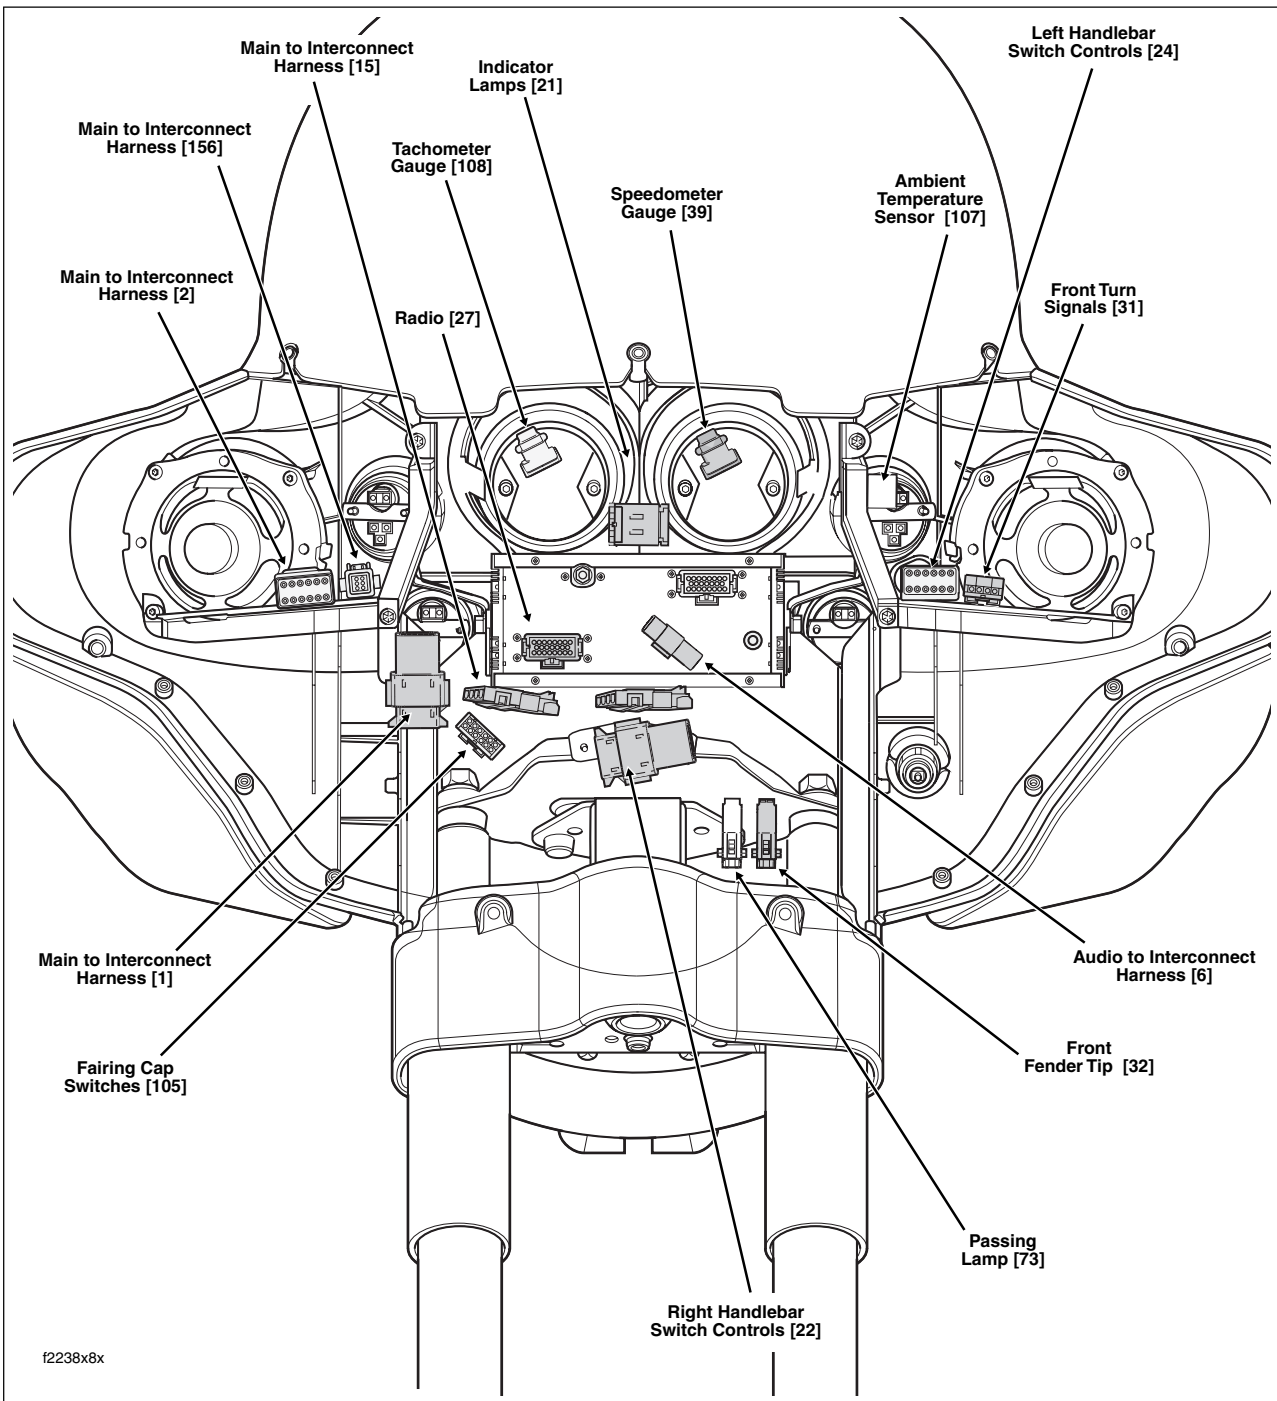

Figure 8-158. Inner Fairing - Interconnect Harness Connectors (FLHTC/U)
7. Remove connectors from their retaining devices, if present, and disconnect pin and socket halves. See Figure 8-158.